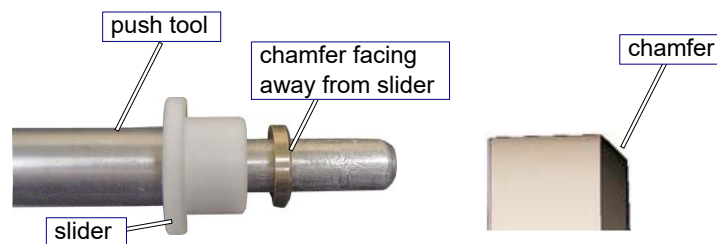

Figure 70
- a. Place the **slider** onto the push tool as shown in Figure 70. Slide the first **backup ring** onto the push tool next to the **slider** with the **chamfer side facing away from the slider**.